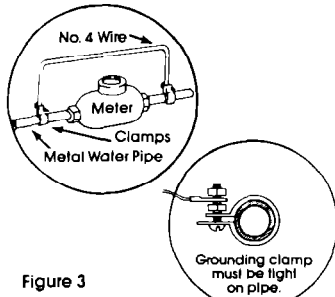

Figure 3
3. DO NOT ground to a gas supply pipe or hot water pipe. Do not connect to electrical supply until appliance is permanently grounded. See Figure 3. Grounded, cold water pipe must have metal continuity to electrical ground and not be interrupted by plastic, rubber or other insulating connectors such as hoses, fittings, washers or gaskets (including water meter or pump). Any insulating, electrical connector should be jumped as shown with a length of No. 4 copper wire securely clamped to bare metal at both ends.